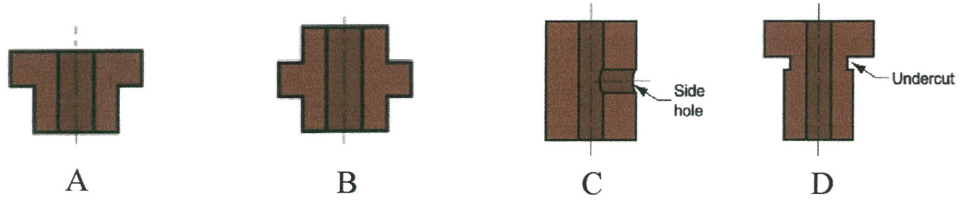

Figure Q5(c)
- (c) What are all the defects that are likely to occur in casting process? Explain **three (3)** of them. (3 Marks)
- (b) The same product can be either produced using casting or powder metallurgy. List **three (3)** advantages of powder metallurgy compared with casting. (3 Marks)
- (c) Indicate either the following shape in **Figure Q5 (c)** can be produced using powder metallurgy. If the product can be produced, explain the pressing pressure. If the product cannot be product, explain the reason. (8 Marks)